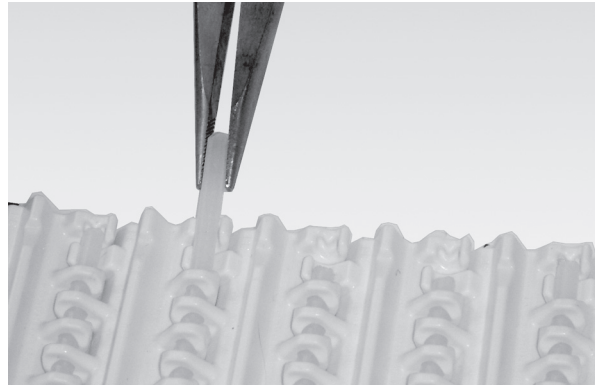

Figure 56
3. Remove the belt rod by gripping the end with a set of pliers and pulling (**Figure 56**).